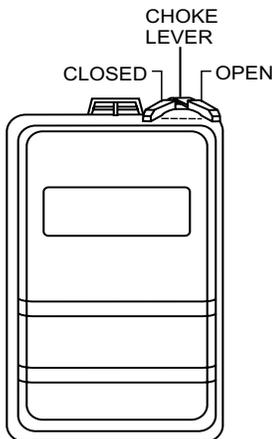

Figure 12. Choke Lever
2. Place the choke lever (Figure 12) in the **CLOSED** position if starting a cold engine.
3. Place the choke lever (Figure 12) in the **OPEN** position if starting a warm engine or the temperature is warm.
6. If the engine has started, slowly return the choke lever (Figure 12) to the **OPEN** position. If the engine has not started repeat steps 1 through 6.